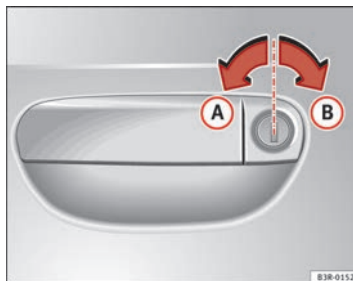

Fig. 70 Turning the key to enable the open and close functions
- To unlock the vehicle, turn the key in the driver door to position **A** ⇒ fig. 70.
- To lock the vehicle, turn the key in the driver door to position **B** ⇒ fig. 70 ⇒ **A**.
To do so, turn the key in the driver door **twice** in quick succession to position **B** ⇒ fig. 70.